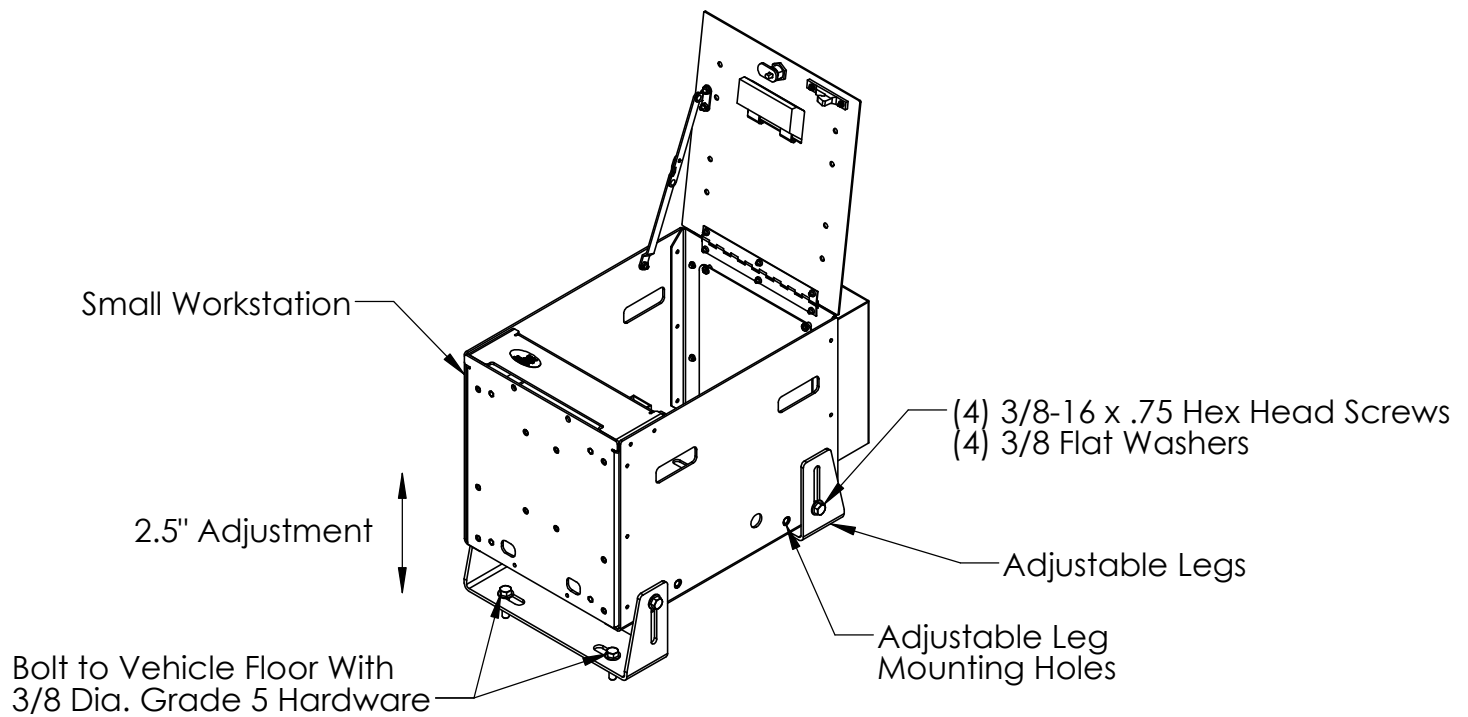

Fig. 2 - 7160-0079 Small Workstation w/Adjustable Legs
#2 - The workstation can also be attached to the vehicle floor using the adjustable legs (see Fig. 2). Using the adjustable legs allows setting the workstation at a convenient height or to compensate for an uneven vehicle floor. The adjustable legs allow 2.5" of vertical adjustment. For shipping, the adjustable legs are wrapped and stored inside the box. Attach the legs to the workstation with (4) 3/8-16 x .75 hex head screws and (4) 3/8 flat washers supplied in hardware bag 7120-0311.